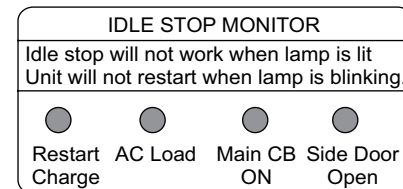

Figure 42. Idle Stop Monitor
- The idle stop function **will not work** if the following lamps are **ON** or **FLASHING** as referenced in Figure 42 and below:
- If any of the status lamps as referenced in Figure 42 are **ON**, correct the problem before using the idle stop function.